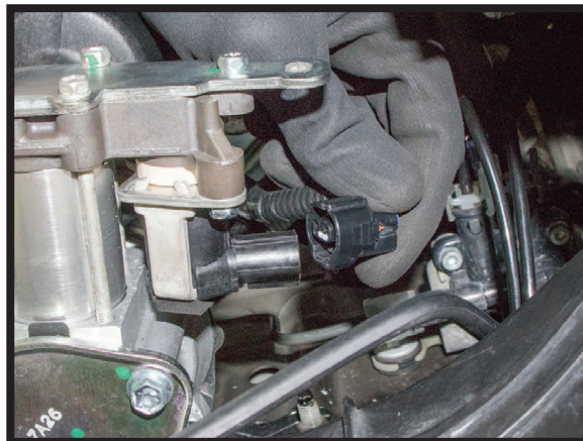

FIGURE 25
3. RECONNECT THE ELECTRICAL FROM THE COMPRESSOR. (FIGURE 25)